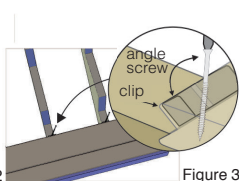

Figure 3
- TIP:** Remove screw from clip and re-drive at 45° angle to avoid driver interference with stringer (fig 3).